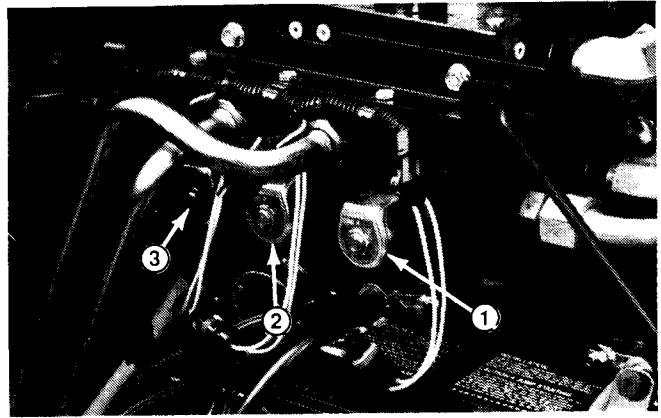

Figure 28
1. Disconnect electrical connector from affected solenoid valve (Fig. 28).